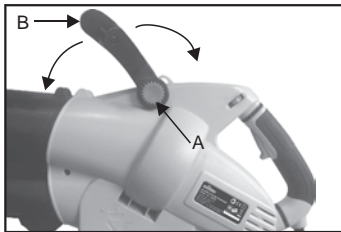

Fig. 4
1. Press the angle adjusting buttons (A) on the front handle. (Fig. 4)
2. Adjust the front handle (B) to a comfortable angle.